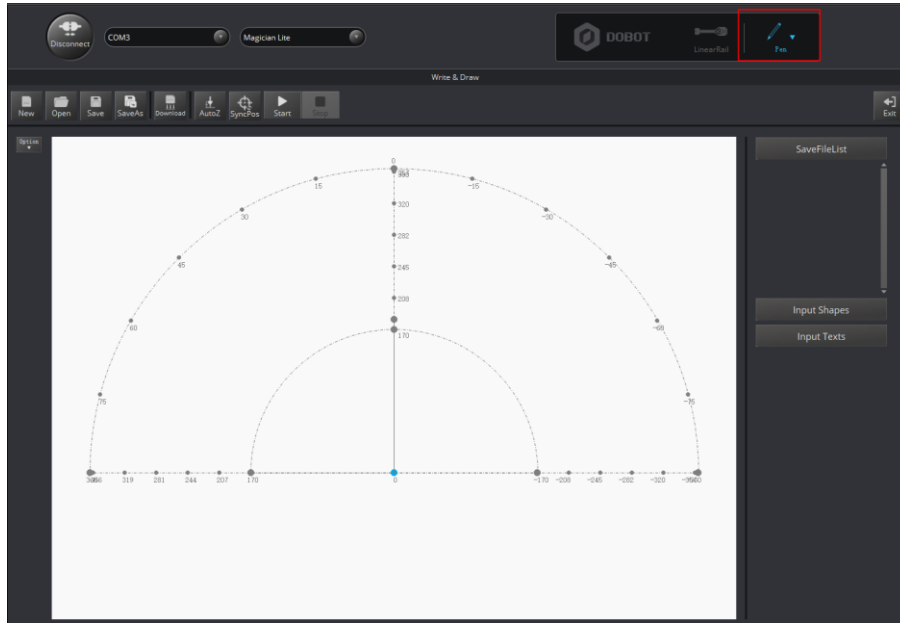

Figure 5.39 Choose Pen as the end-effector
**Step 3** Choose **Pen** as the end-effector on the **Write & Draw** page, as shown in Figure 5.39.